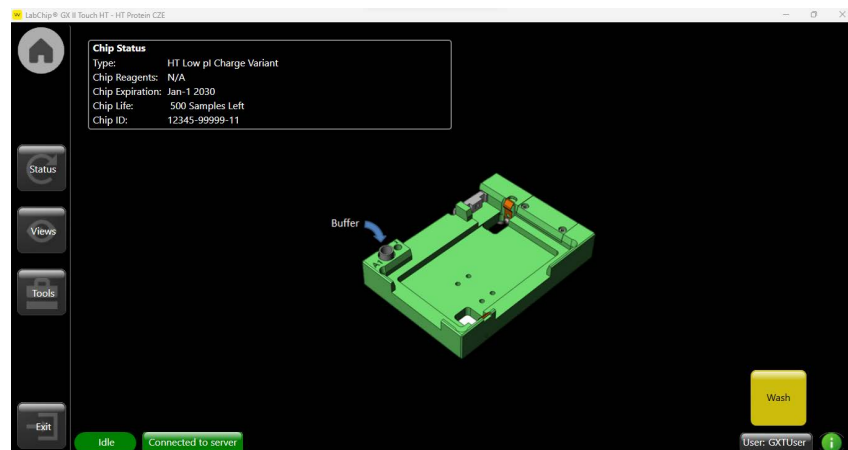

Figure 12. Wash Screen
- 7 Touch the **Wash** button on the **Wash** screen (see Figure 12).